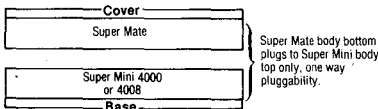

Fig. 2—Super Mate to Super Mini Module One Way Pluggability
- b. The Super Mate Module is a connector that can terminate up to a twenty-five pair conductor group in the module body top. The Super Mate Module provides a pluggable connection when used in conjunction with a 3M Brand MS2 Super Mini® 4000, 4008 or another Super Mate Module. See Figure 2 and 3.